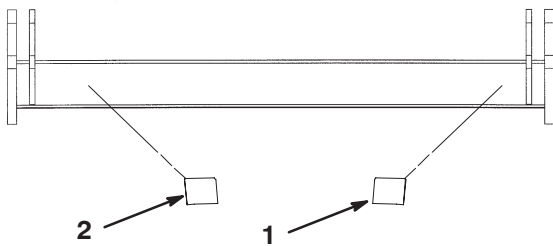

Figure 5
2. For CE conformity, affix the CE mark decal and noise rating decal onto rear of frame, as shown in figure 5.